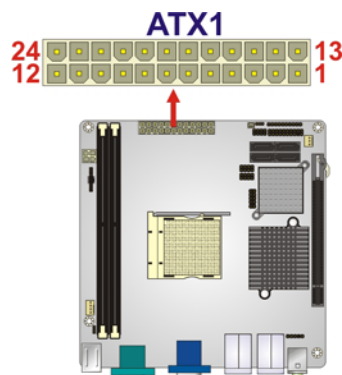

Figure 3-2: ATX Power Connector Pinout Locations
- CN Location:** See Figure 3-2